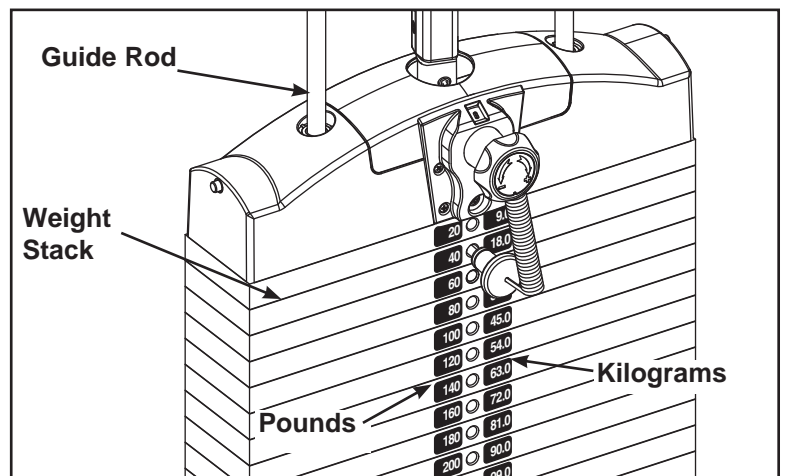

Figure 5
- D. Carefully remove front side, leaving decals adhering to weight plates. See Figure 5.